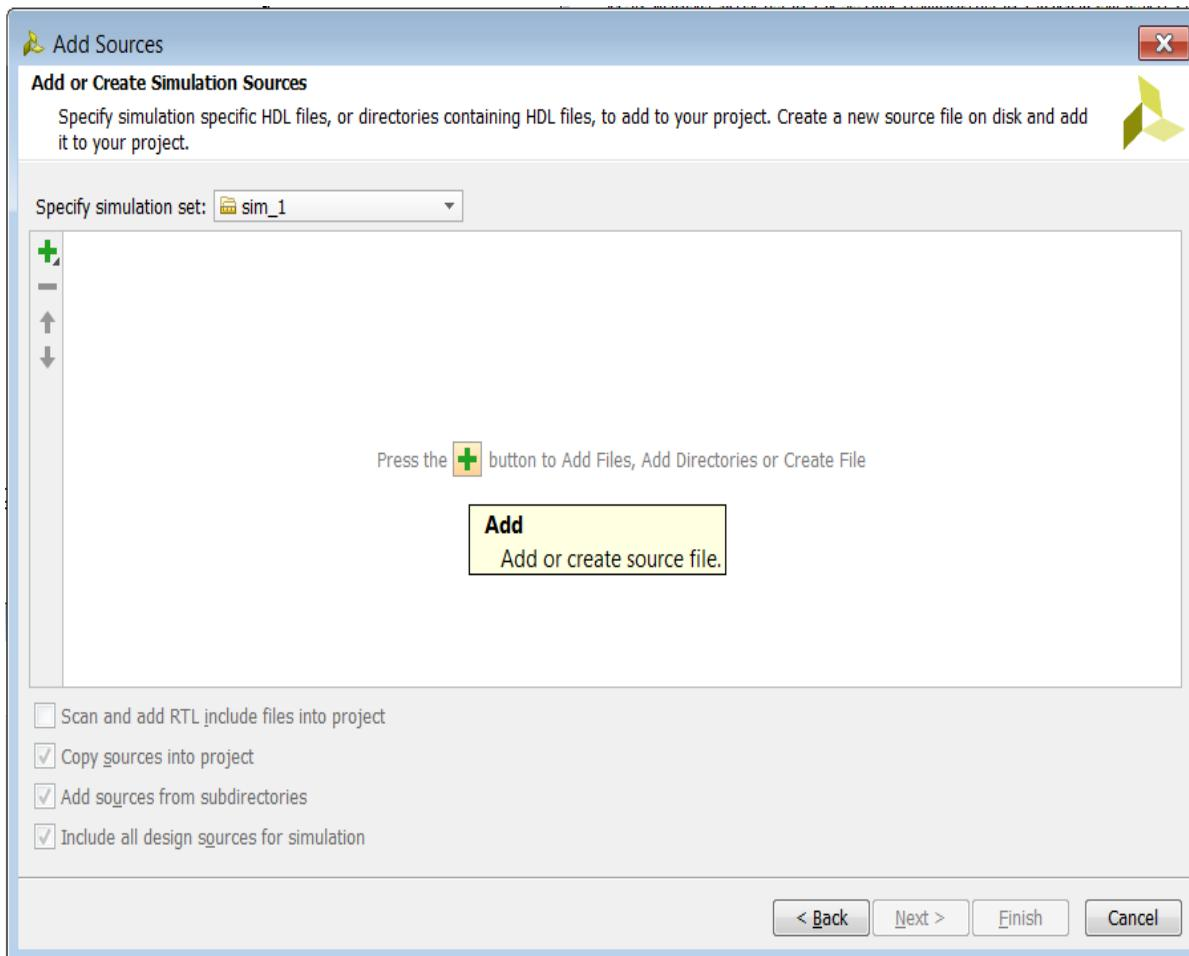

Figure 9-28: Add Source Dialog Window
5. In the Add Sources dialog box, click the "+" symbol to **Add Files** button highlighted in Figure 9-28 and select **Add Files**.